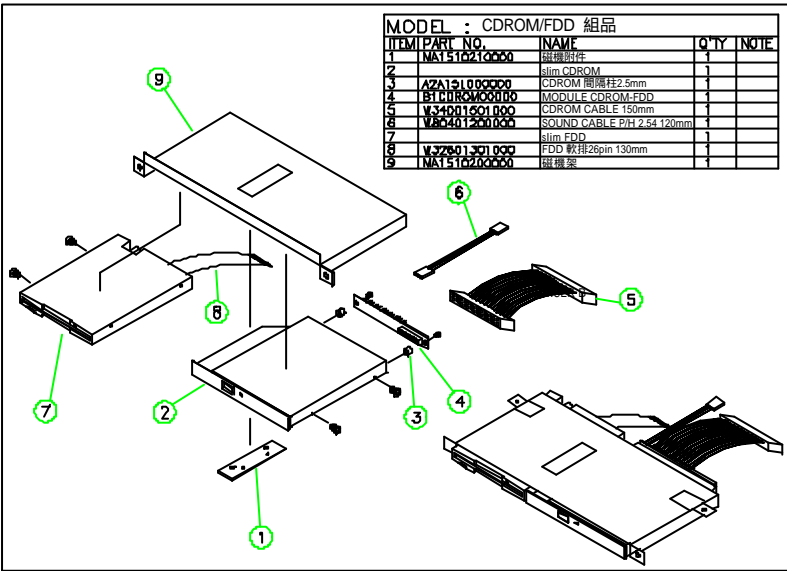

FIGURE 5-12: CD-ROM/FDD MODULE ASSEMBLY
2. Refer to Figure 5-12. Attach the CD-ROM board (4) to the slim CD-ROM (2) and fix them together with 2 IMS screws.
3. Insert the CD-ROM module to the CD-ROM/FDD bracket (9) and fix them together with two IMS M2*2.25 screws.
5. Attach one end of the 26-pin FDD flat cable (8) to the slim floppy disk drive (7) first.
7. There is a small metal bracket (1) used to firmly fix the CD-ROM and FDD modules to the CD-ROM/FDD bracket. This small bracket is to prevent the CD-ROM/FDD from moving when installed to the FDD/CD-ROM bracket.
9. There is a 4-pin CD audio-in wire to be plugged to **CD1** on the motherboard. Connect the other end of the CD-Audio wire (6) to the 4-pin black pin connector on the CD-ROM board.